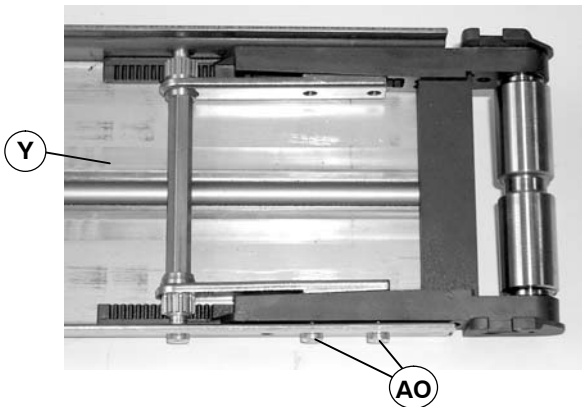

Figure 33
1. Remove two screws (AO of Figure 33) on each side of conveyor.